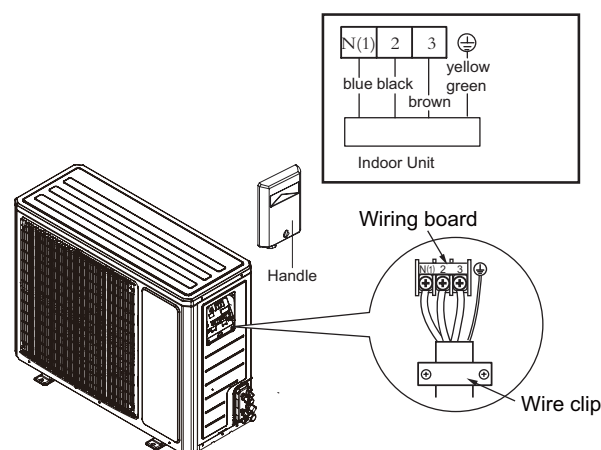

Fig.23
- (1) Remove the wire clip; connect the power connection wire to the wiring terminal according to the color; fix them with screws.
- (As show in Fig.23)